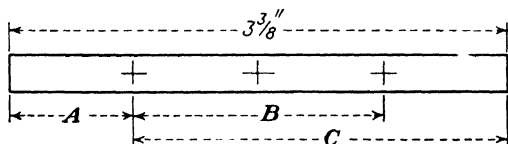

Fig. 21.
7. The metal strip in Fig. 21 is to be divided into 4 equal parts. Find the missing dimensions.